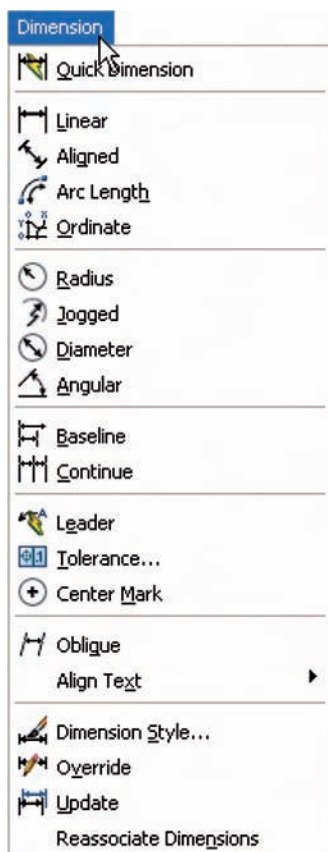

Fig. 6.1 The **Dimension** drop-down menu
1. **Click Dimension** in the menu bar. Tools can be selected from the drop-down menu which appears (Fig. 6.1).